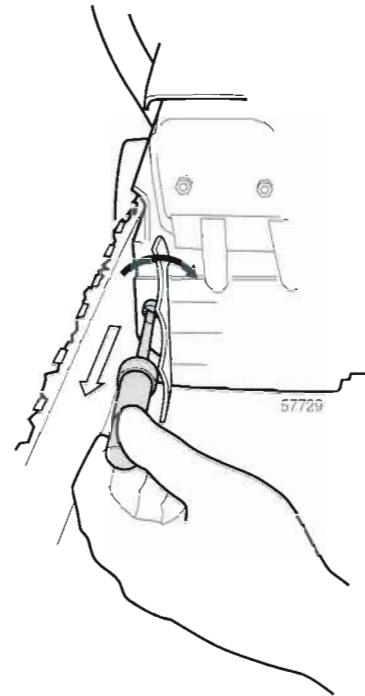

Figure 6.27 Adjusting Chain Tension
STEP 3. Adjust the guide bar for proper chain tension. Tighten bar nut(s) securely (Figure 6.27).